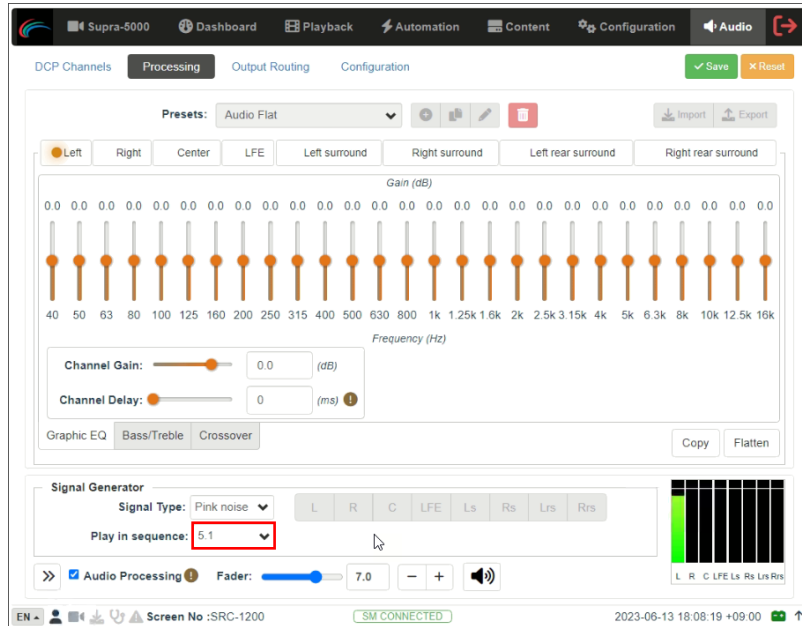

Figure 154: Play Test Signal in selected Sequence
- b) You can select the '5.1' or '7.1' option from the **Play in sequence** drop-down in order to play the test signal sequentially through all the corresponding channels, one channel at a time (as shown in **Figure 154**).